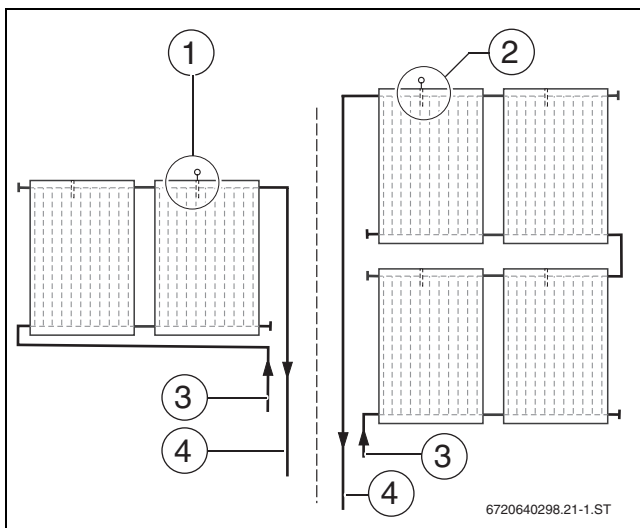

Fig. 57 Position of the collector sensor
- ▶ Fit the collector sensor with connected flow into the collector (→ Fig. 57).